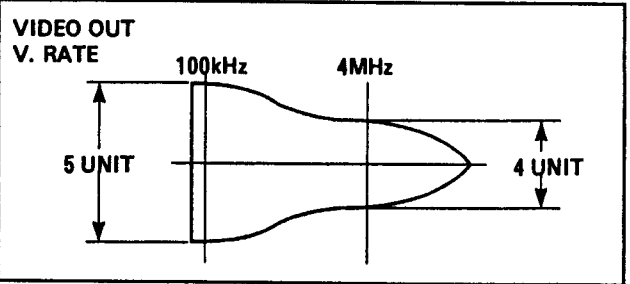

Figure E17
5. Adjust VR3006 so that the playback frequency response becomes 5 : 4.0 ± 0.5 at the marker point of 100KHz and 4MHz as shown in Figure E17.